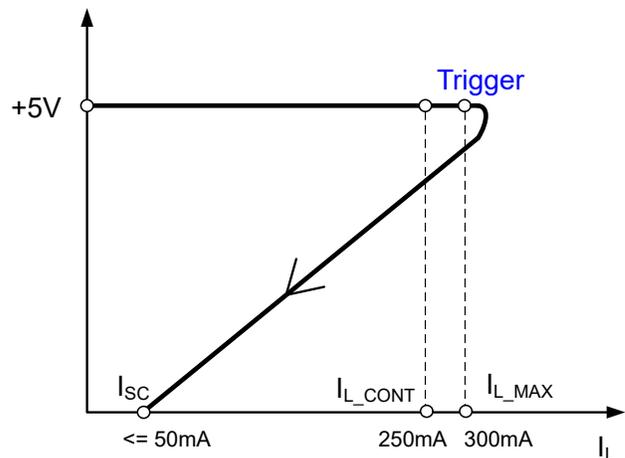

Figure 2. Fold Back Current Limiting Characteristics
- For sustained overload or short-circuit faults, current should fold back to maximum of 50 mA to reduce system operating temperatures and to avoid any harmful effects. The fold back current profile is illustrated in Figure 2